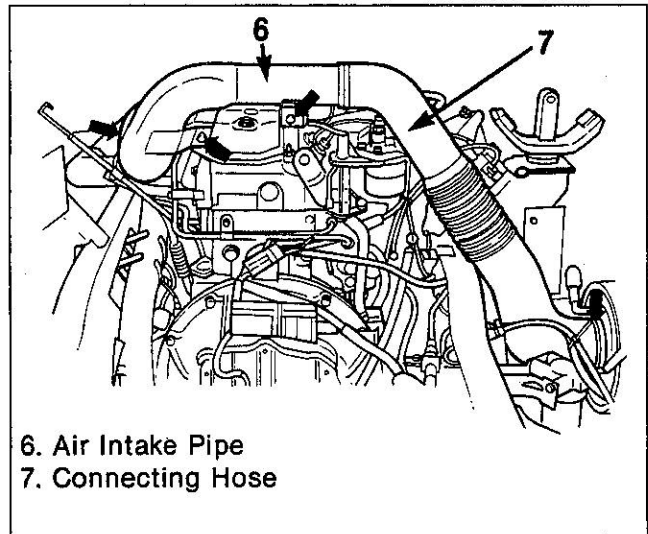

Figure 3. Air Intake Pipe to Turbocharger Attachment
6. Air intake pipe (6) with connecting hose (7) from the turbocharger and the air cleaner (figure 3).
29. Air intake pipe (6) with connecting hose (7) (figure 3).